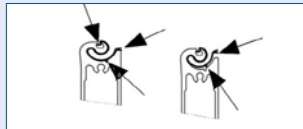

Fig. 3.2.1
- Place the panels into the structure so that the top panel with the top sealing is located below. The articulated link seal must be fixed-located on the panel (Fig. 3.2.1) in this case, and the V-shaped sealing lip on the profile section edge.